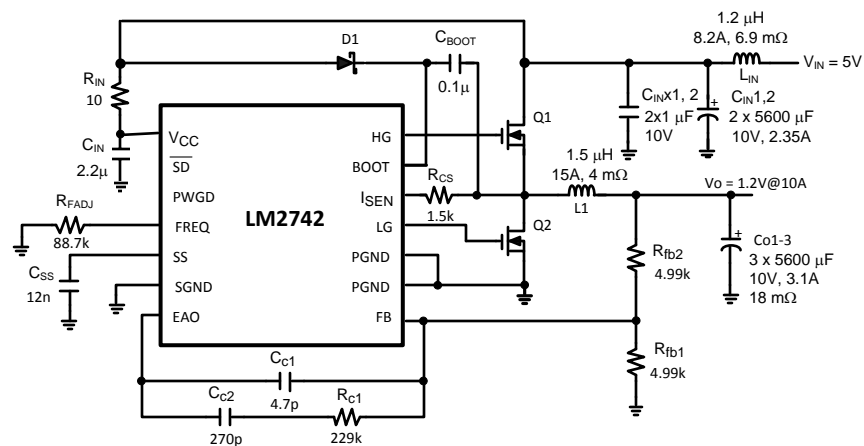

Figure 32. 5V to 1.2V, 10A, 300kHz
The following is a design procedure for all the components needed to create the circuit shown in Figure 32 in the Example Circuits section, a 5V in to 1.2V out converter, capable of delivering 10A with an efficiency of 85%. The switching frequency is 300kHz. The same procedures can be followed to create many other designs with varying input voltages, output voltages, and output currents.
The Cinx capacitors are high frequency bypass devices, designed to filter harmonics of the switching frequency and input noise. Two 1μF ceramic capacitors with a sufficient voltage rating (10V for the Circuit of Figure 32) will work well in almost any case.
The following shows an efficiency calculation to complement the Circuit of Figure 32. Output power for this circuit is 1.2V x 10A = 12W.
**Table 3. Bill of Materials for Circuit of Figure 32**
**Table 3. Bill of Materials for Circuit of Figure 32 (continued)**